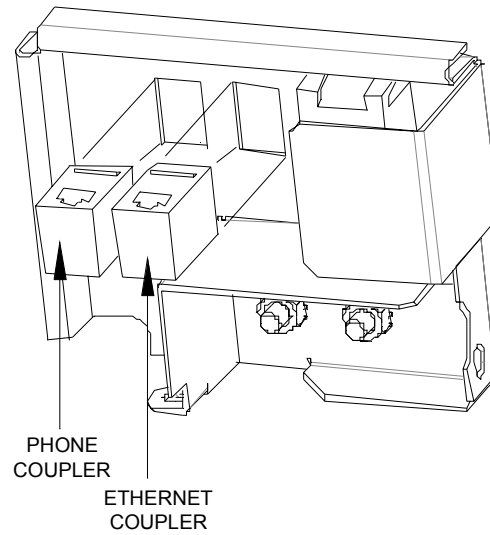

FIGURE 15 - MAXX SELECT/SLIM MAXX - COUPLER INSTALLATION
- If your game has vertically oriented access holes on the power entry assembly, see MAXX A - Figure 15.*
37. **MAXX A:** Secure the coupler retention bracket with the thumbnuts. Orient the supplied, snap-in Ethernet coupler and insert it into the right access hole in the coupler retention bracket. Then orient the supplied, snap-in phone coupler and insert it into the left access hole in the coupler retention bracket. See Figure 15.